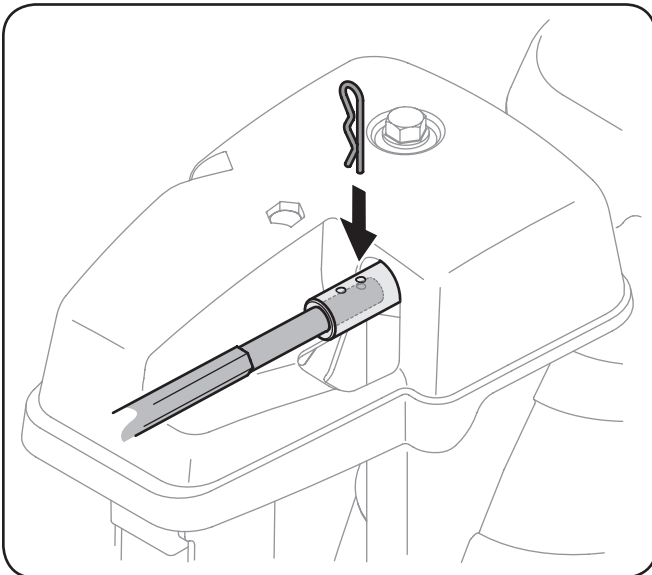

Figure 3-9
- Push the chute control rod toward the control panel until the hole in the rod lines up with the hole in the chute control input closest to the chute control head and insert the hairpin clip removed earlier. See Figure 3-9.